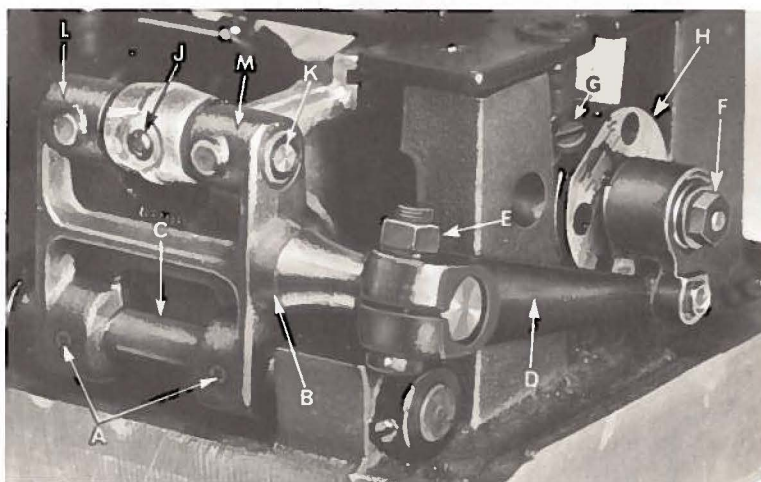

Fig. 10
Should it be necessary to move the feed dog to the left or right, loosen screws (A, Fig. 10) which hold the feed rocker (B) onto the feed rocker shaft (C) and move feed rocker to desired position and retighten screws. Make sure the feed rocker arm (D) does not bind after making this adjustment.
Set the stitch to required length. This is accomplished by loosening the locknut (F, Fig. 10) (it has a left hand thread) on the end of the stitch regulating stud and turning the stitch adjusting screw (G) lo-
The feed rocker assembly may require lubrication or repair after years of operation. This can be accomplished as follows: Loosen nut (E, Fig. 10) and remove nut (F). Remove feed rocker arm (D) from machine by rocking slightly. Loosen screws (A) and remove stop collar on right end of shaft (C). The shaft can now be withdrawn. Loosen Allenscrew (J) and remove shaft (K). Now, repack bearings.
When packing the bearings, the parts must be clean and grease should be applied directly from the tube to avoid contamination. Tube of grease can be supplied under the part number 28604 P. Greased bearings are located at (L, M, Fig. 10). If grease sealed bearings are replaced they should